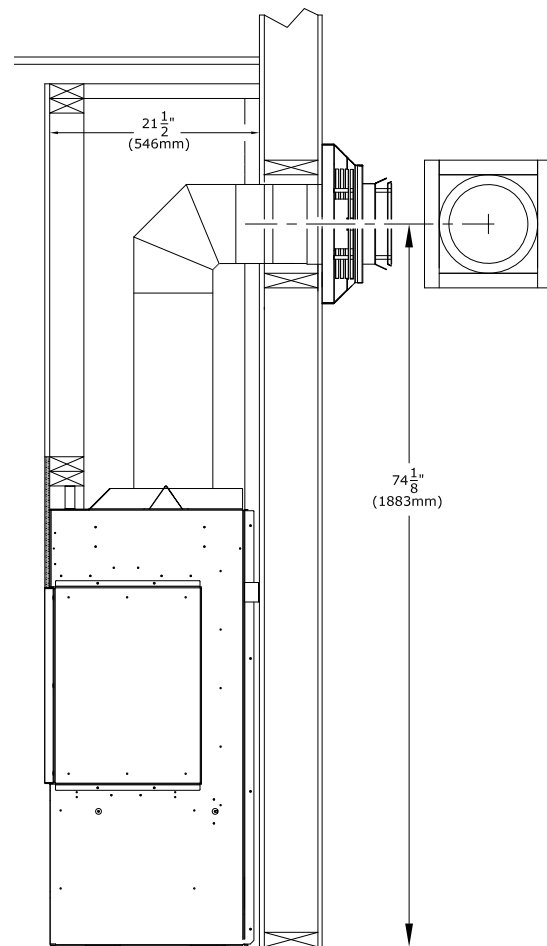

Figure 4.5 - Minimum WPT Framing
- Follow Figure 4.5 below for minimum rough-in dimensions.
1. Measure from floor level of the fireplace to the center of where the vent pipe will penetrate the wall. The dimension in Figure 4.5 is used with a Simpson DuraVent vent pipe.